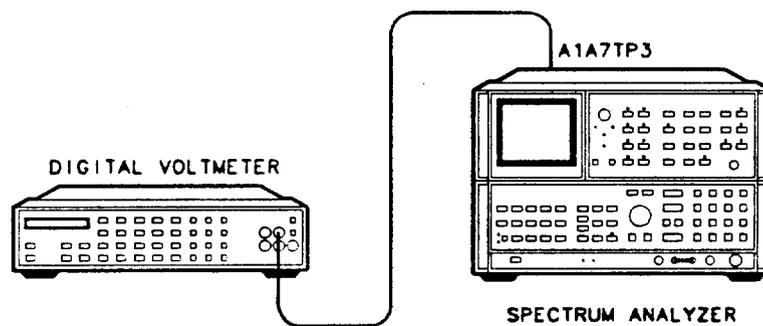

Figure 4. High Voltage Adjustment Setup
2. Connect the equipment as shown in Figure 4. Remove the top cover.